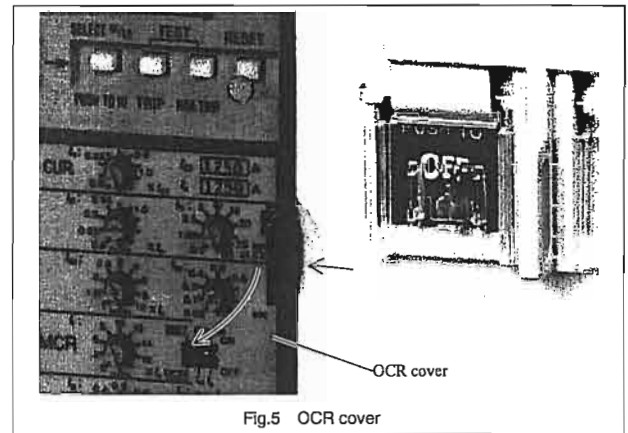

Fig.5 OCR cover
- (4) Open the OCR cover (Fig. 5). Push the right end of the OCR cover to the left at the hollow on the front cover to unlatch and open the OCR cover. If the OCR cover is padlocked, first remove the padlock.